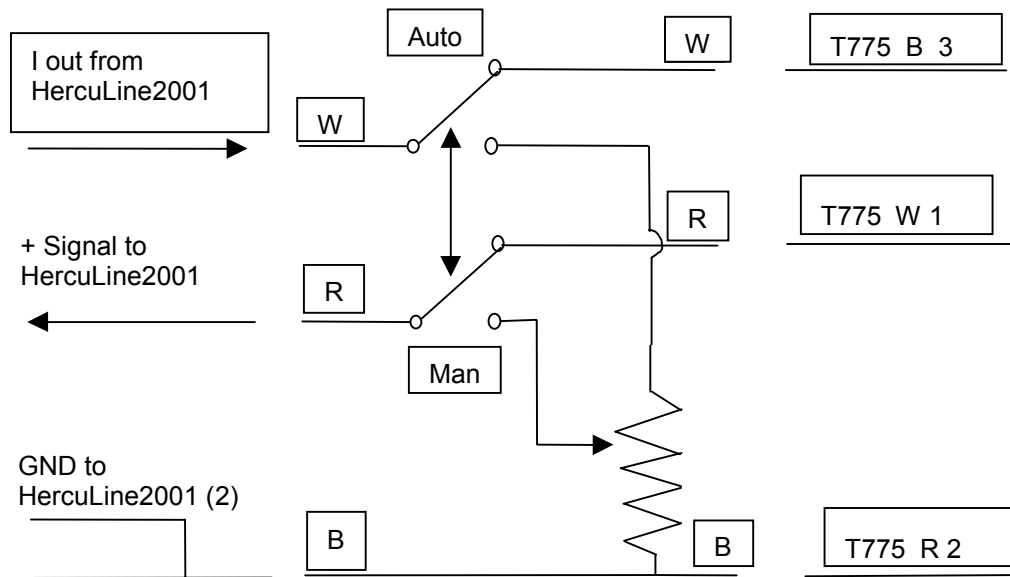

Figure 15 T775 Controller connections
1. This connection performs an emulation of a series 90 motor. If the controller being used is also an emulation of a Series 90, the connections required may be different. Shown in Figure 15 are the connections found necessary to connect a T775 controller through an S443A S90 Auto/Manual Control. If the controller has the capability to provide a 4/20 or voltage output, it is easier to use that mode. It will require only two wires and it will allow the independent use of the 4/20 output. If help is required, contact Honeywell.